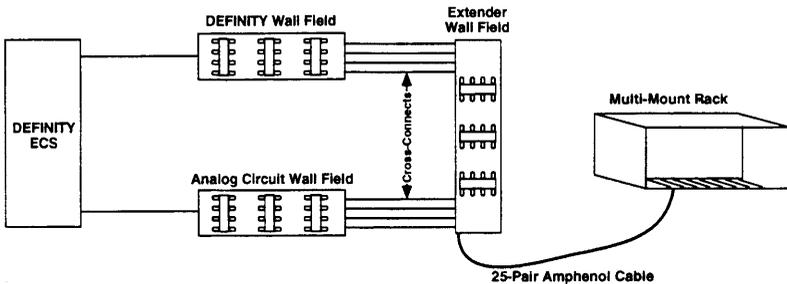

Figure 3-3. Cross-Connect or Wall Field
1. Create a cross-connect or wall field so that the 50-pin Amphenol cable can be used to connect the DEFINITY analog circuit pack (the 8-port TN742 or the 16-port TN746) and dedicate central office lines to the 50-pin Amphenol port on the Multi-Mount Rack (see Figure 3-3). See the *DEFINITY® Communications System Generic 3, Installation for Single-Carrier Cabinets* manual for complete instructions.